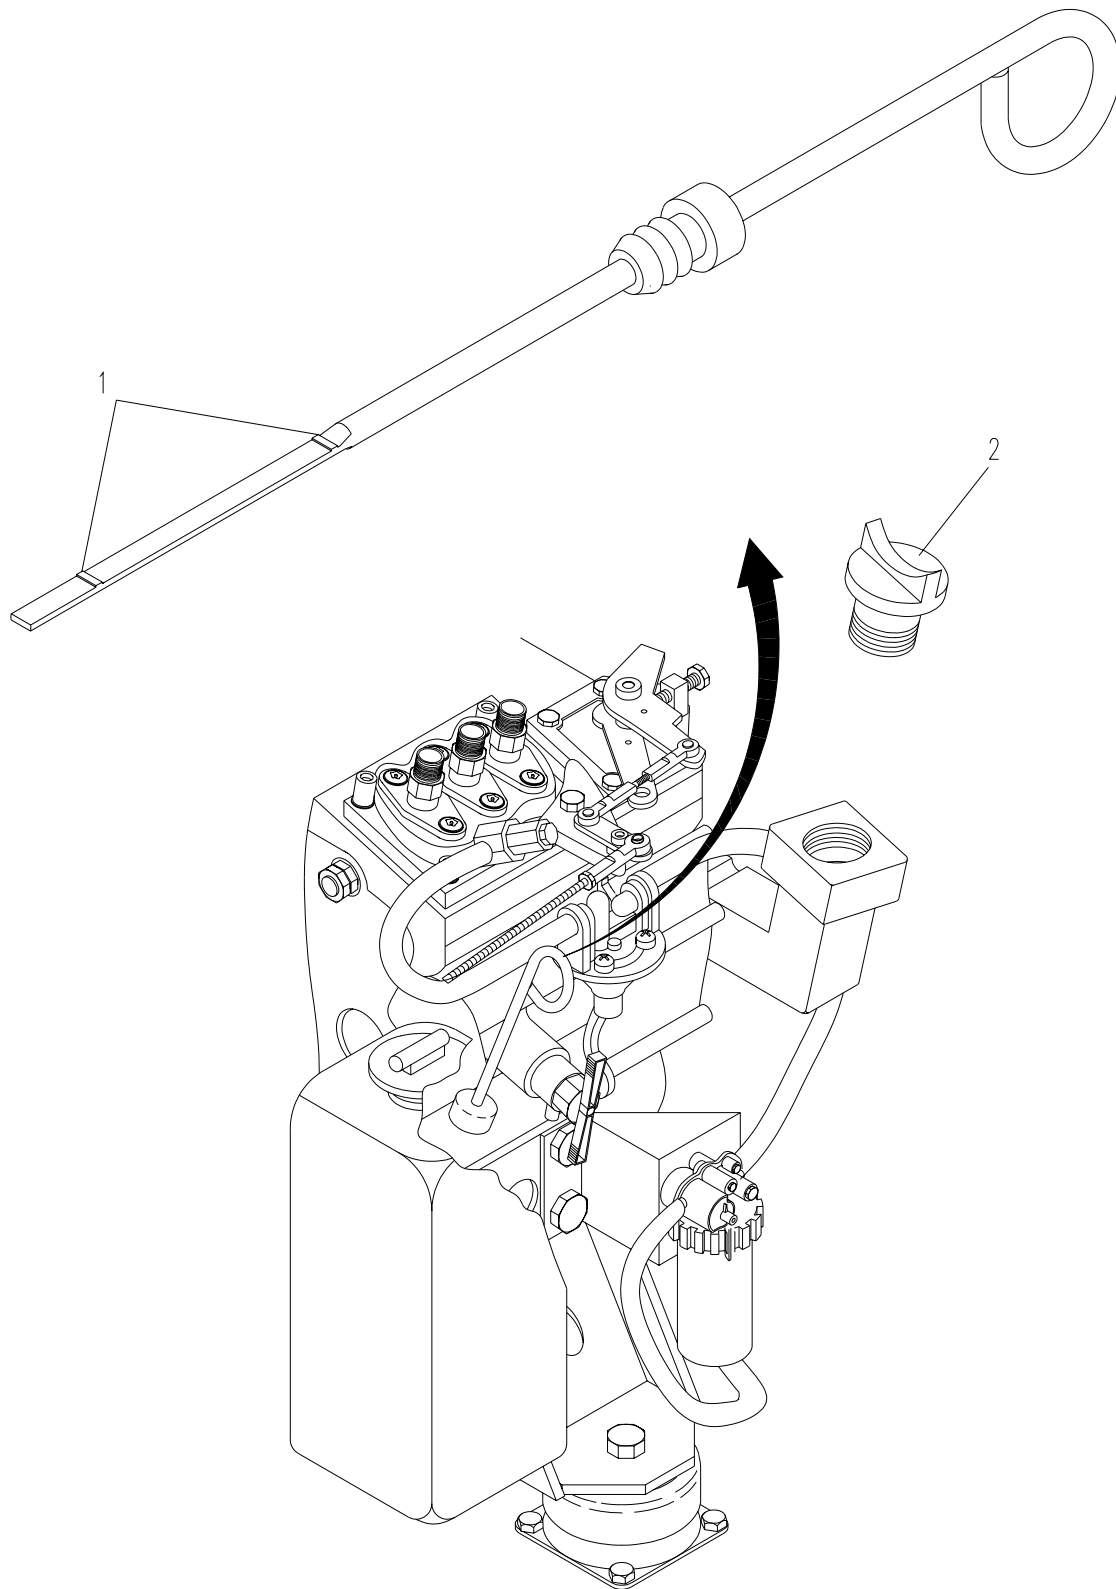

Figure 3-2. Engine Oil
- d. Remove oil dipstick and check to see if oil level is between the notches (1, Figure 3-2) on the oil dipstick.